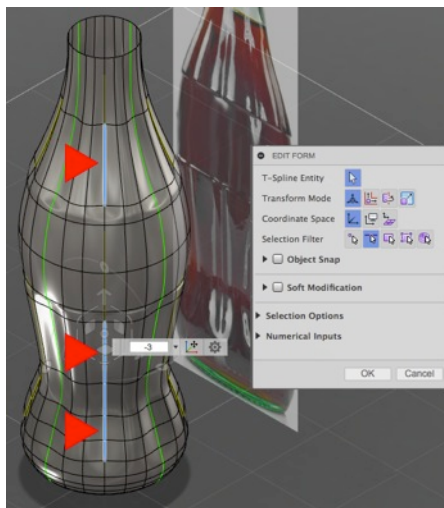

Fig. B09
- d. Repeat steps b and c with the same of set edges three faces to the left (Fig. B09).